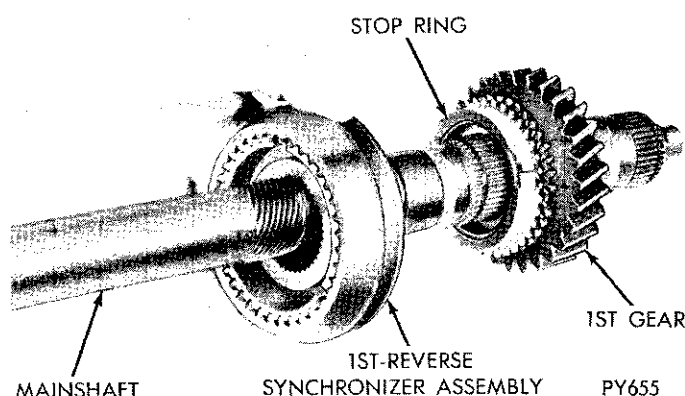

Fig. 22—1st-Reverse Synchronizer Assembly—Removal or Installation
splines and remove from mainshaft (Fig. 22).
(15) Slide 1st-Reverse synchronizer assembly over mainshaft, indexing the hub slots to 1st gear stop ring lugs (Fig. 22).